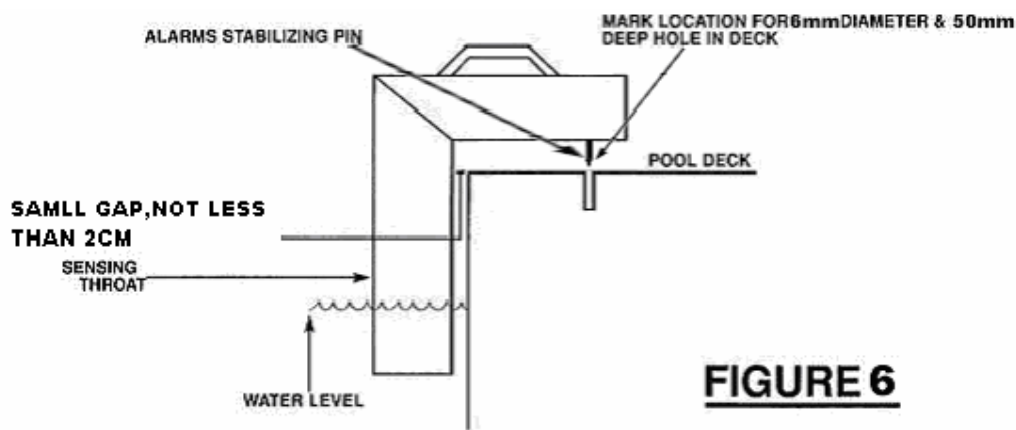

FIGURE 6
- 1/. Position your pool alarm so that the sensing throat is in the water and the **ASP** is touching the deck. Be sure to leave a small space between the sensing throat and the edge of your deck, Refer to Figure 6.